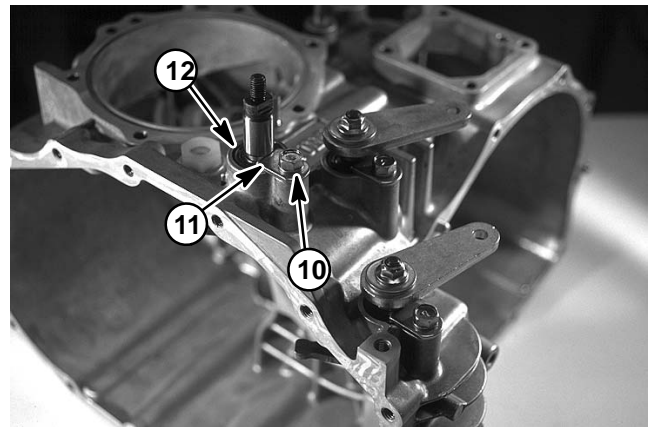

Figure 38
- C. Loosen cap screws (Fig. 38) and remove keeper plates.